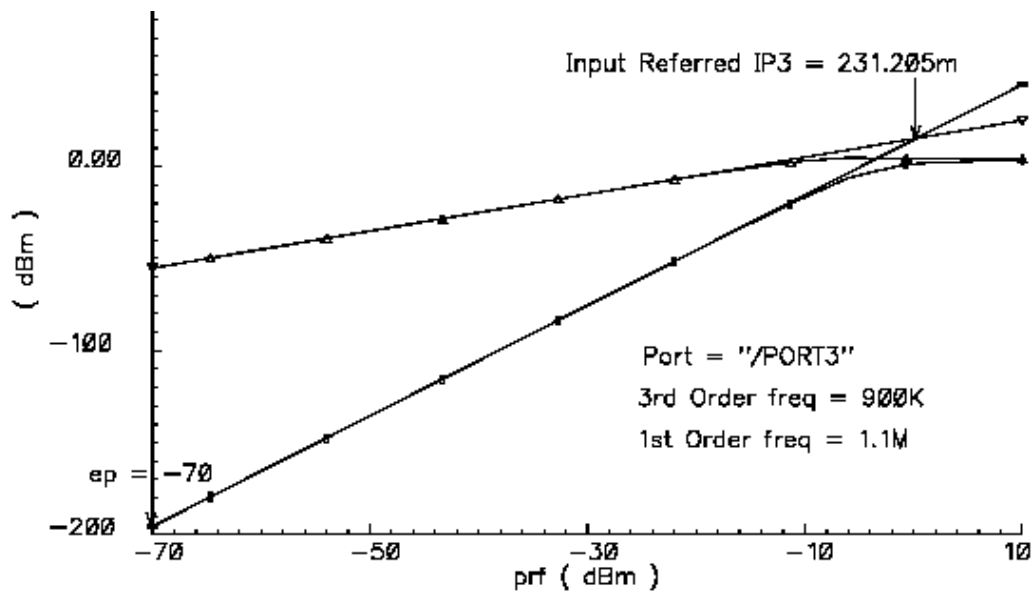

Fig 13: IIP3 using QPSS and QPAC
- *Activate the Schematic Window and click on IF port to view the results as shown in Fig 13*